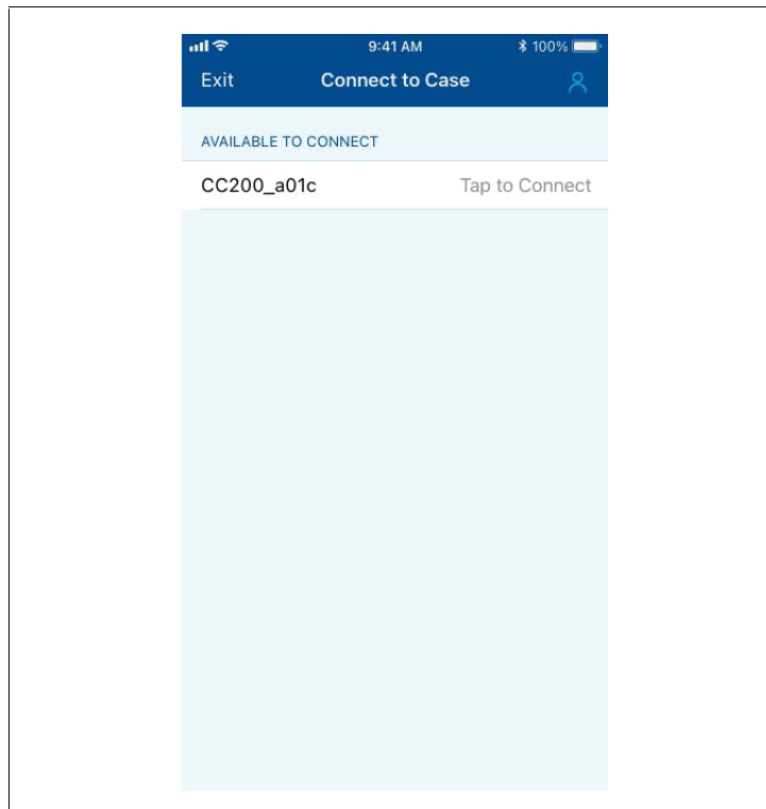

Figure 6 - Connect to Case
b. Turn Bluetooth® ON the mobile device or tablet. Open Cold Chain Connect and sign in. After signing in, Cold Chain Connect will scan for nearby CC200 controllers and available controllers will be displayed as shown in the screen below (Figure 6).